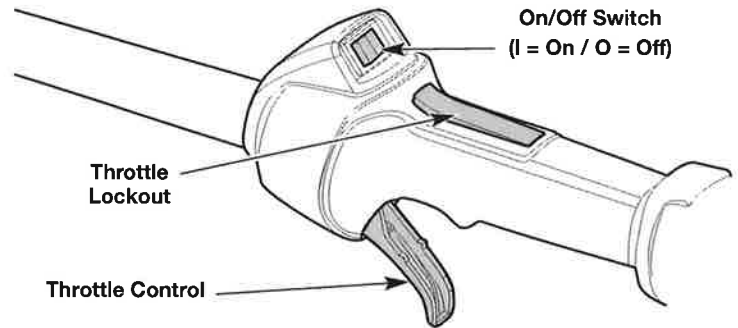

Fig. 7
NOTE: There is no need to turn the unit on. The On/Off switch is in the **On (I)** position at all times (Fig. 7).
6. Press and hold the throttle lockout. Squeeze and hold the throttle control (Fig. 7). Pull the starter rope with a controlled and steady motion **5 times** (Fig. 9).
2. Press and hold the On/Off switch in the **Off (O)** position until the engine comes to a complete stop (Fig. 7).